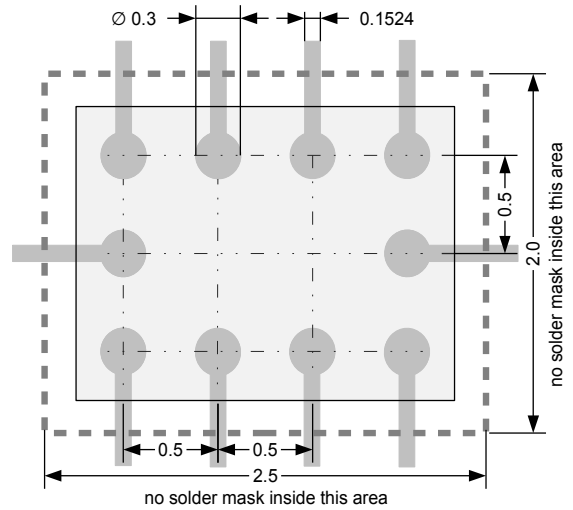

Figure 14: CSP10: Layout recommendation
- Use a pad layout similar to the one shown in Figure 14. Notice that all tracks should go underneath the solder mask area.